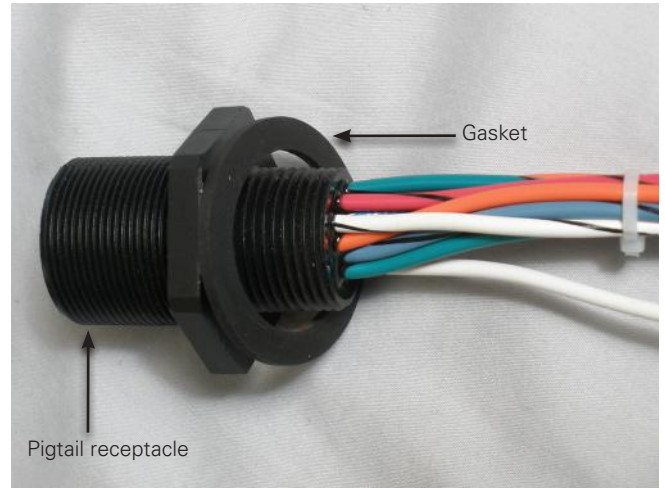

Figure 30. Gasket installed over pigtail connector.
- Place one of the gaskets (Item 4), over the pigtail harness (Item 2) wires seating the gasket against the connector nut as shown in Figure 30.